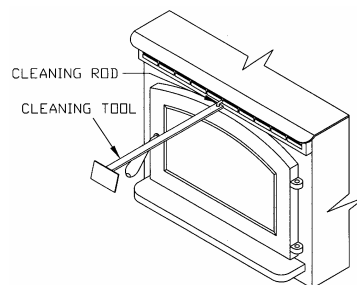

FIGURE 24
- Clean heat exchanger tubes (see **"CLEANING"** and Figure 24).
- a. **Heat Exchange Tubes** – Your Breckwell stove is designed with a built-in heat exchange tube cleaner. This should be used every two or three days to remove accumulated ash on the tubes, which reduces heat transfer on the P23. Insert the handle end (with hole) of the cleaning tool onto the cleaning rod (refer to figure 24). The cleaner rod is located in the grill above the stove door. Move the cleaner rod back and forth several times to clean the heat exchanger tubes. Be sure to leave tube cleaner at the rear of the stove.